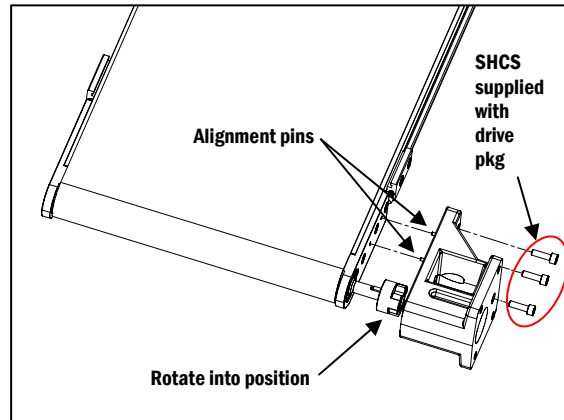

Figure 4
b. Place the Drive Mounting Casting over the conveyor's bearing block. Align the pins in the casting to the holes in the bearing block and secure it in place with the three M6 Socket Head Cap Screws supplied with the mounting package (Figure 4).